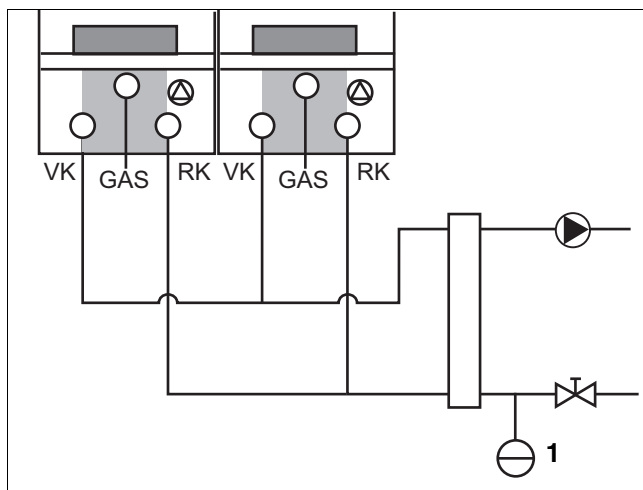

fig. 10 Connecting the expansion vessel in a multi-boiler configuration (cascade configuration)
- Connect the expansion vessel to the secondary side of the header in the return circuit (fig. 10), so that every boiler is connected to the expansion vessel (fig. 10).